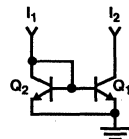
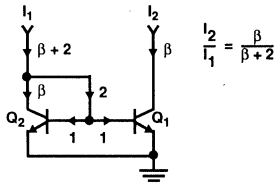

FIGURE 39A. DIODE - TRANSISTOR CURRENT SOURCE
FIGURE 39B. DIODE - TRANSISTOR CURRENT SOURCE. ANALYSIS OF CURRENT FLOW
If the base of a second transistor (Q_1) is connected to the base-collector junction of Q_2 , shown in Figure 39A, Q_1 will also be able to "sink" a current approximately equal to that flowing in the collector lead of the diode-connected transistor Q_2 . This assumes that both transistors have identical characteristics, a prerequisite established by the IC fabrication technique. The difference in current between the input current (I_1) and the collector current (I_2) of transistor Q_1 , is due to the fact that the base-current for both transistors is supplied from I_1 . Figure 39B shows this current division, using a "unit" of base current (1) to each transistor base. This base current causes a collector current to flow in direct proportion to the β of each transistor. The ratio of the "sinking" current I_2 to the input current I_1 is therefore:
Figure 39D shows a curve-tracer photograph of characteristics for the circuit of Figure 39B. No consideration in this discussion is given to the variation of the transistor (Q_1) collector current as a function of its collector-to-emitter voltage. The output resistance characteristic of Q_1 retains its similarity to that of a single transistor operating under similar conditions. An improvement in its output resistance characteristic can be made by the insertion of a diode-connected transistor in series with the emitter of Q_1 .